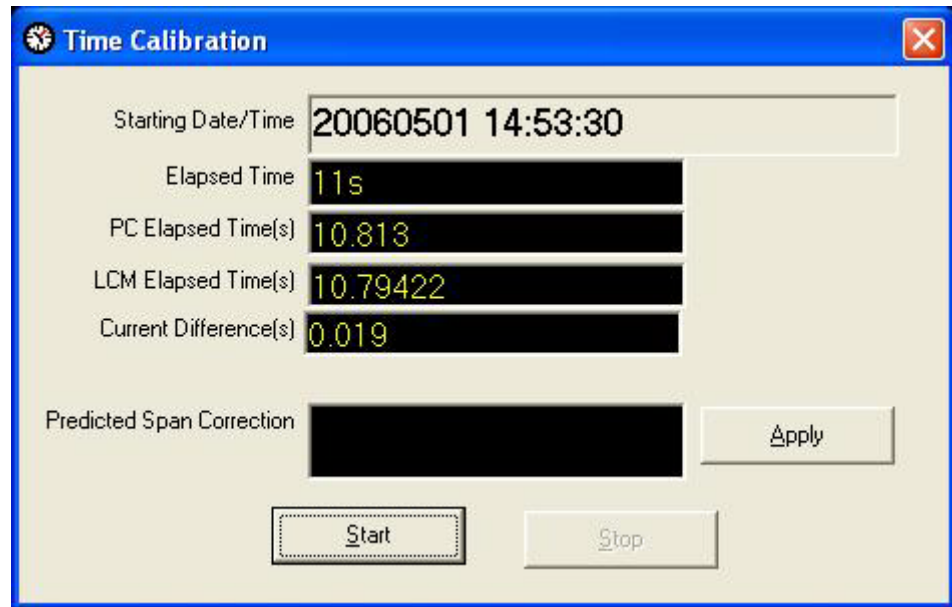

Figure 111. Time Calibration window
The **GFS Tools [Tools][PC Timer Calibration]** menu choice is provided to adjust and/or compare the internal clock of the host PC to the calibrated clock of the LCM (see Figure 111). The internal clock of the host PC is used to integrate flow from a DUT to obtain a mass. For this reason, it is important for the PC clock and LCM clock to agree. However, perfect agreement is not critical. Flow is inherently an average quantity. Integrating a flow that updates ever second with a time that has error off ± 5 ms will not yield a significant flow integration error.
- ❶ In GFS Tools select **[Tools]**, **[PC Timer Calibration]** (see Figure 111).
- ❷ In the **Timer Calibration** window, click the **Start** button.
- ❸ Allow at least three hours to elapse, and then click the **Stop** button.
- ❹ The **Predicted Span Correction** should be between 0.999900 and 1.000100. If it is not within these limits the LCM frequency can be more accurately checked or adjusted by the instructions in Section 7.5.3.3.